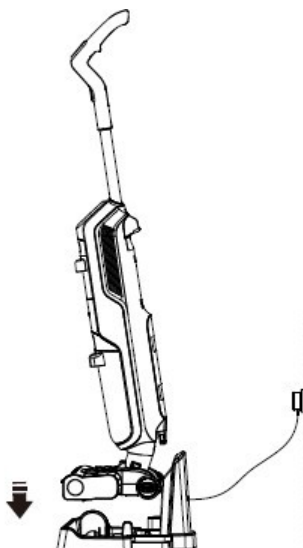

Fig. 14
- II. Replace the device on the charging station as shown in Fig.14. It starts auto-clean program as priority, so please press "AUTO-CLEAN PAUSE " button to stop auto-clean program firstly, then it will start charging with the battery level indicator light on the digital display screen flashing.